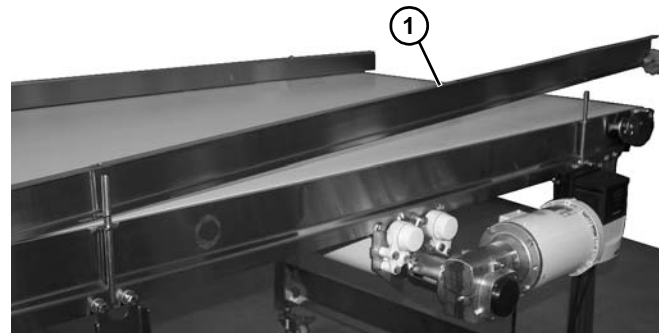

Figure 33
1. Remove guides (**Figure 33, item 1**) when required.